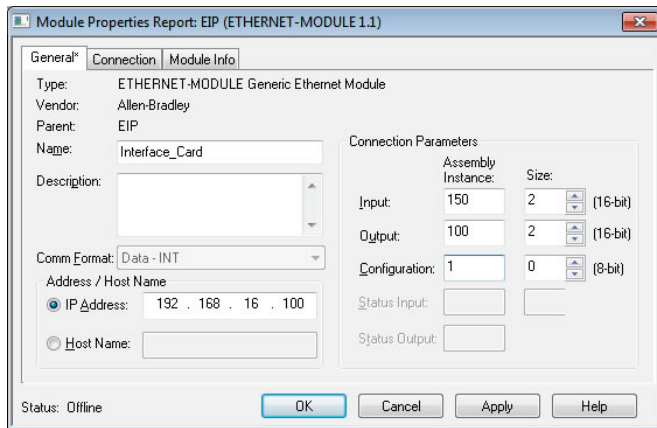

Figure 42: Interface Card Module Properties
- 4) The module properties dialog box will open (refer to Figure 42). Enter a Name which will allow easy identification of the inverter on the network (the tags created in RSLogix 5000 will be derived from this Name). Because all inverter data is stored as 16-bit registers, change the “Comm Format” selection to “Data-INT”. Enter the IP address of the targeted interface card.